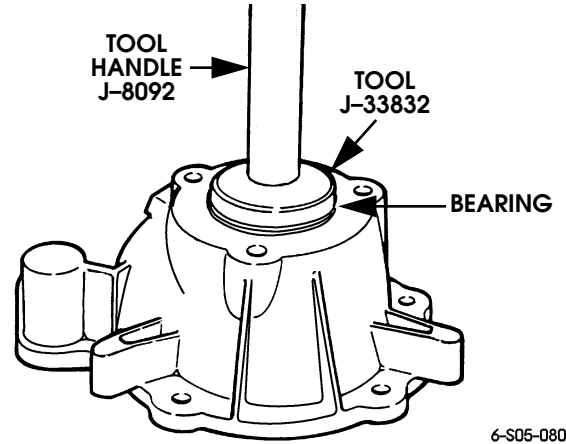

Figure 5-164: Installing Mainshaft Bearing In Rear Retainer
- 36. Install mainshaft bearing in rear retainer (Figure 5-164). Use tool handle J-8092 and installer J33832.